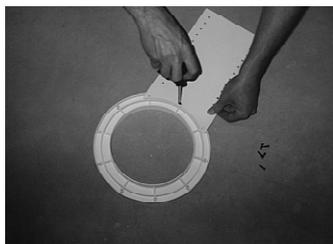
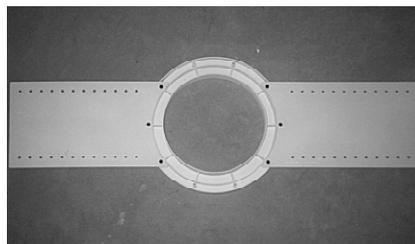

Fig. 1
Fig. 2
Determine where each speaker will need to be installed. The ten holes in the mounting ring allow the wings/arms to be slightly rotated for installations requiring different configurations. Attach extension wing/arm onto mounting ring using three (3) 1/4" screws (see figure 1) for each wing/arm, being careful not to overtighten the screws. For proper installation, screws must go through the wing/arm and into matching holes in mounting ring. When using under normal conditions, each assembly should look like the assembly in figure 2.